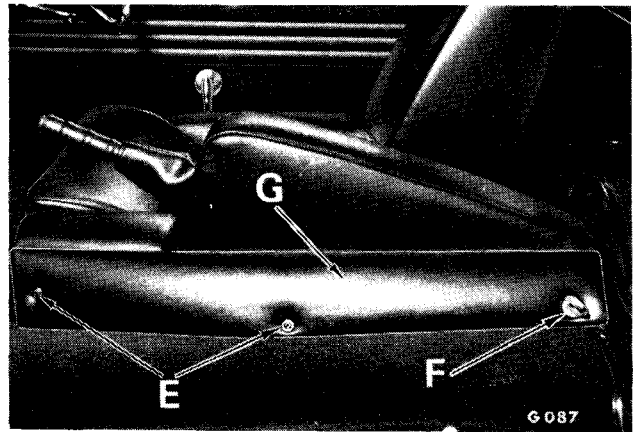

Fig. 4. Transmission tunnel side finishers
Take out screws (E) and safety belt anchor bolts (F) and remove the transmission tunnel side finishers (G) (Fig. 4).